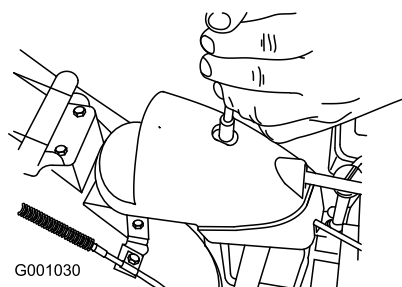

Figure 51
1. Remove the fastener on the gear cover (Figure 51), lift the front of the cover up, and slide it back and out of the way.